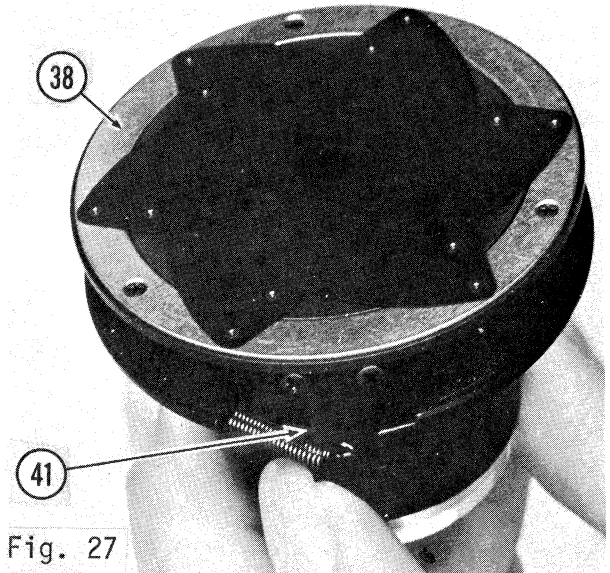

Fig. 27
4.2.2 Rotate Diaphragm Lever (41) until all blades clear outer edge of Diaphragm Blade Ring (38), as shown in Fig. 27.